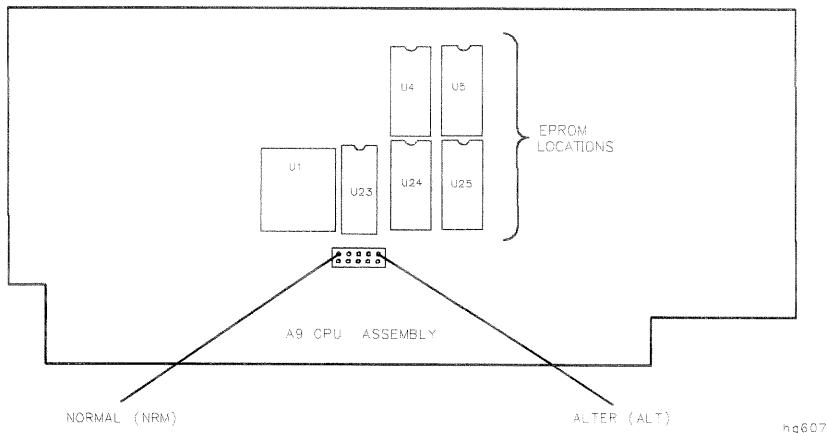

Figure 10-2. Jumper Positions on the A9 CPU
- 4 **Main DRAM.** Verifies the A9 CPU main memory (DRAM) with a non-destructive write/read test pattern. A destructive version is shown in Table 10-2. These tests, internal tests 2 through 4, are normally run at preset and power-on. However, a jumper on the A9 CPU assembly, illustrated in Figure 10-2, can be set in one of five positions with the following results: